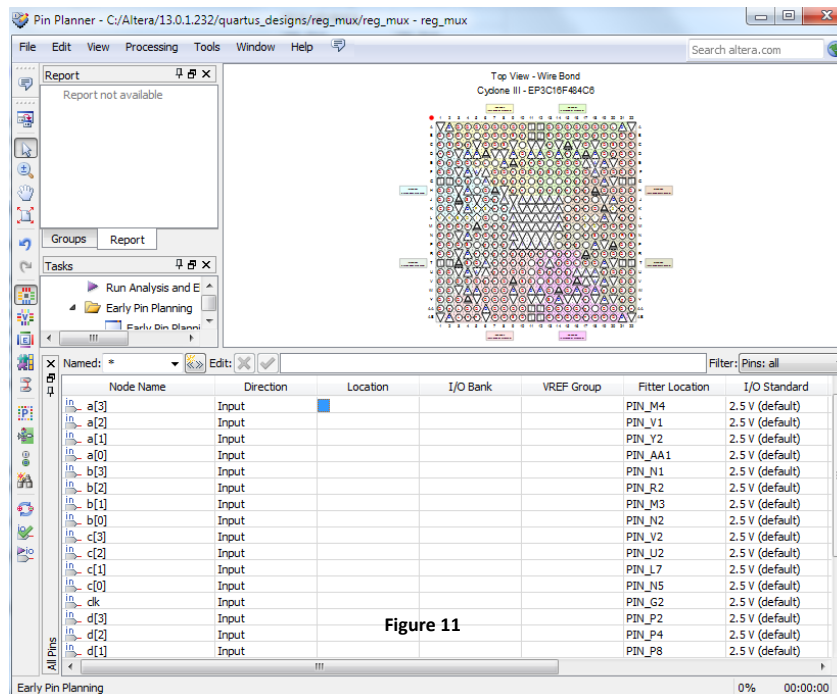

Figure 11
- a) Select **Assignments > Pin Planner** or click , which opens the window of figure 11.